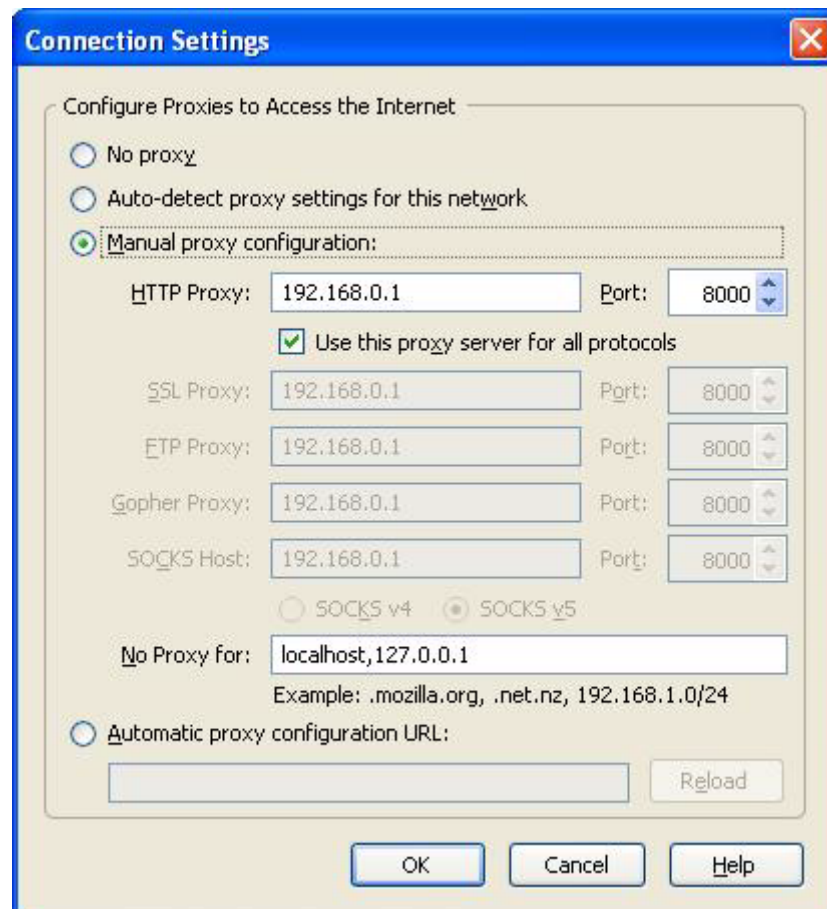

Figure A-2 · Connection Settings Dialog Box
5. Click the **Settings** button (Figure A-2).